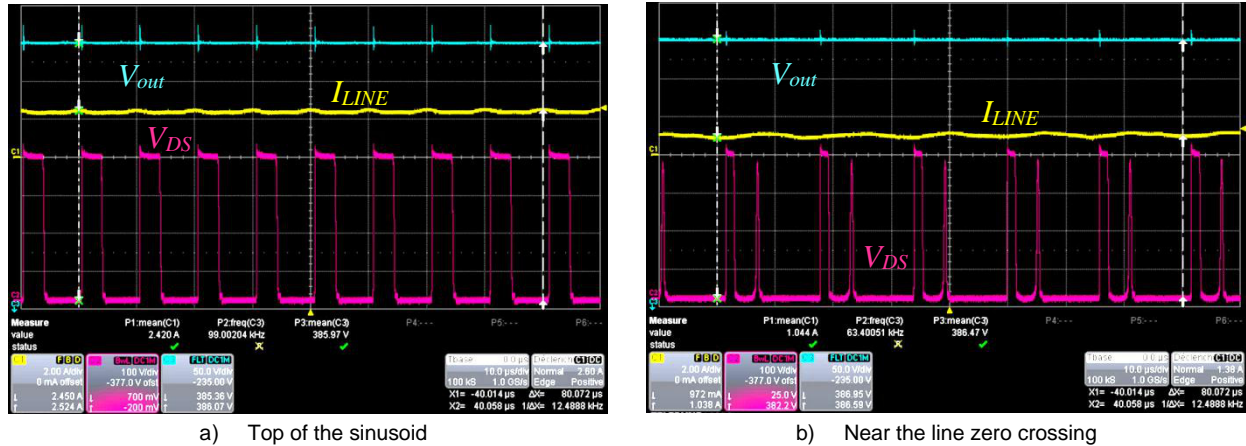

Figure 6. Operation at 115 V rms, 40% Load
- At 40% of the load, the 130 kHz frequency clamp starts to trip (Frequency-clamped critical conduction mode) leading to critical conduction mode operation at the top of the sinusoid and valley-2 operation near the line zero crossing as illustrated by Figure 6.